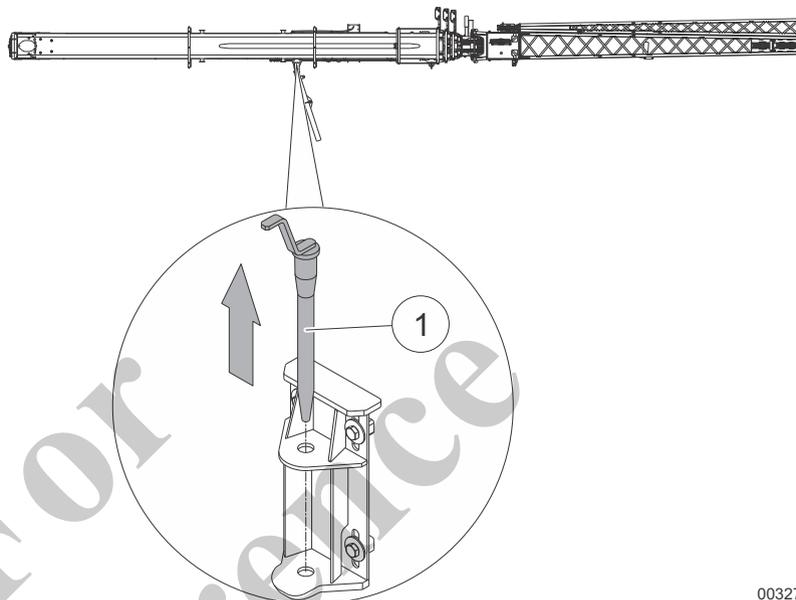

Fig. 142 Releasing the fly boom safeguard
- 18 Release and remove the vertical bolt (1) in Fig. 142 on the basic body.
- 23 Insert and secure the vertical bolt (1) in Fig. 142 into the fly boom lock on the basic body.